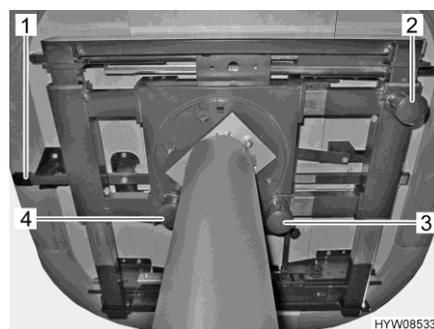
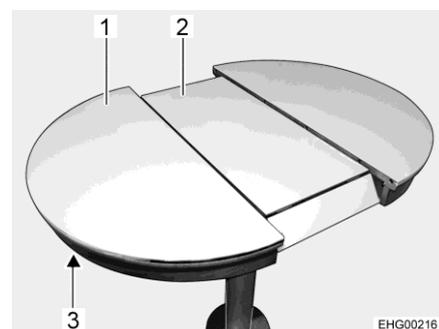

Fig. 85 Adjustment possibilities on the table
Fig. 86 Expanding the table top
- Pull down the knob (Fig. 85,3) and hold it.
- Pull down the knob (Fig. 85,2) and hold it.
- Pull down the knob (Fig. 85,4) on the lock.
- Press the release (Fig. 85,1 and Fig. 86,3) upwards.
- Pull on the table top (Fig. 86,1) until the centre section (Fig. 86,2) comes up and is at the same height as the table top.
- Press the release (Fig. 86,3) upwards.
- Pull on the table top (Fig. 86,1) until the centre section (Fig. 86,2) is freed.